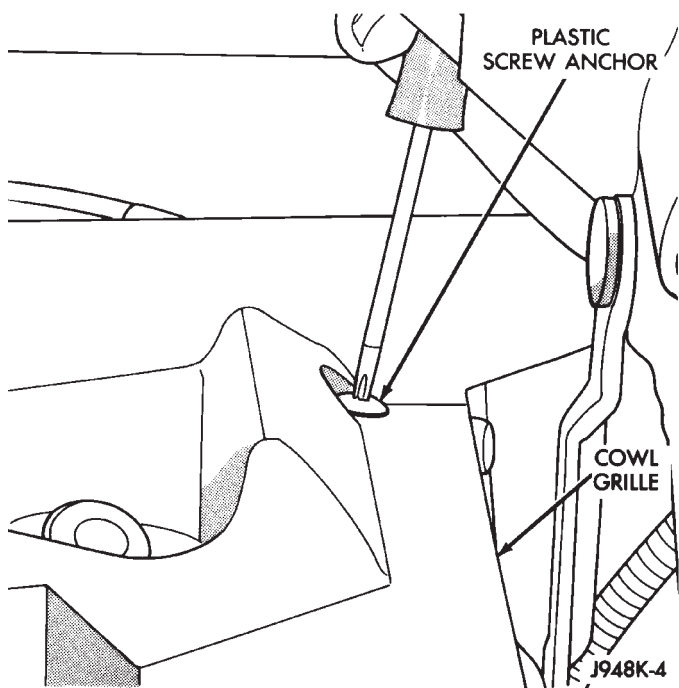

Fig. 40 Cowl Plenum Plastic Screws Remove/Install
(4) Remove the plastic screws that secure the cowl plenum cover/grille panel to the studs on the cowl top panel near the base of the windshield (Fig. 40).